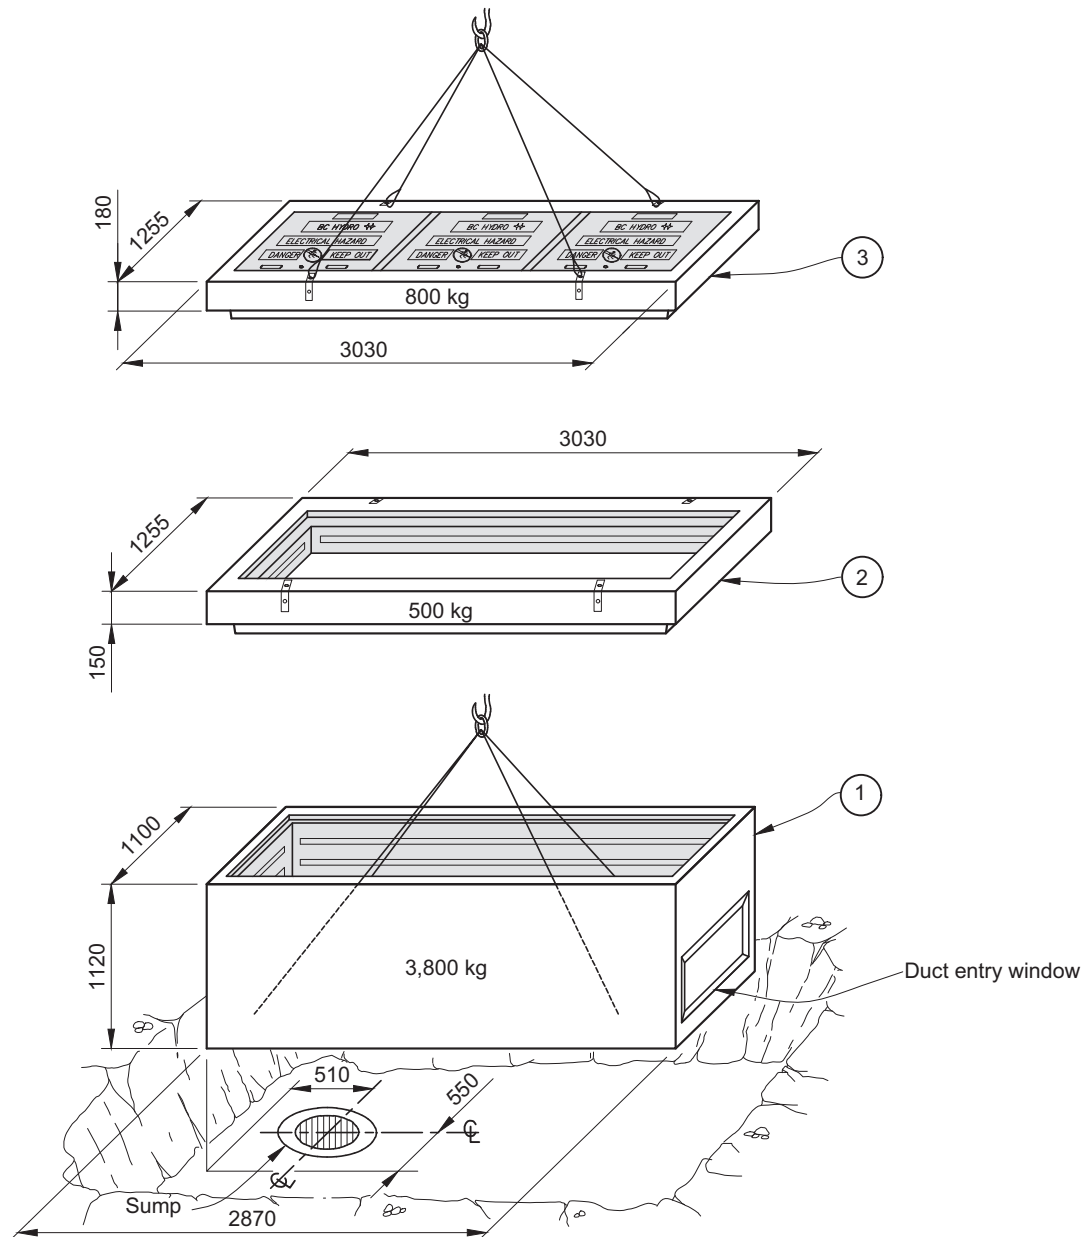
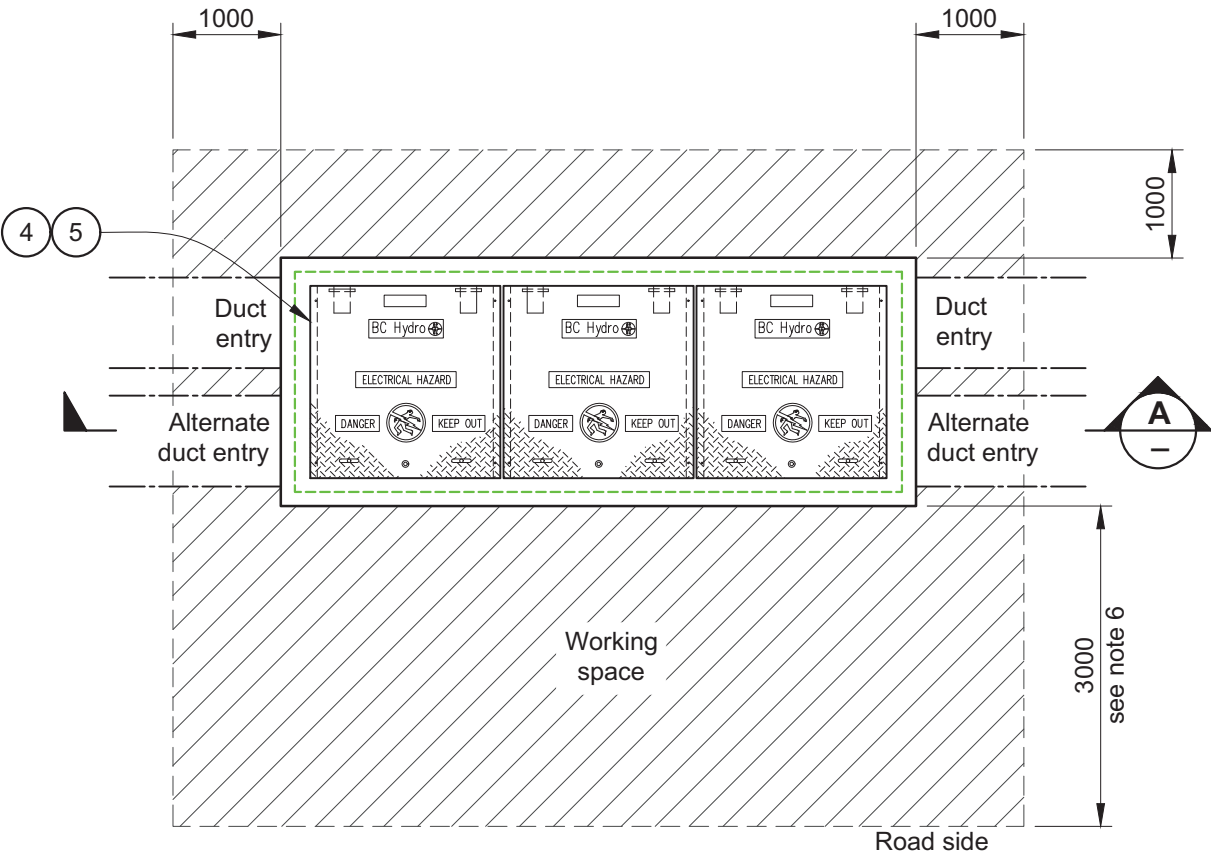

Figure 1 – 832 sidewalk duty precast concrete box installation details
Figure 2 – Plan view
5. "Alternate duct entry" area shown in Figure 2 is permitted for junction boxes, though "duct entry" area is preferred. See ES54 B0-02.
Added *Application* and *Revision Notes* sections. Removed grounding kit with ground rod from *Items Required*. Updated Figure 1 due to changes in product design including weights, dimensions, and lifting mechanism to incorporate manufacturers' lifting clutches. Removed ground rods from Figures 2 and 3. Substantive changed content is marked by green vertical revision lines in the left margin. This standard released concurrently with Standards and Equipment Advisory Information Bulletin 2025-002 *Revised ES54 Section B Pull and Splice, Service, and Junction Box Standards*.